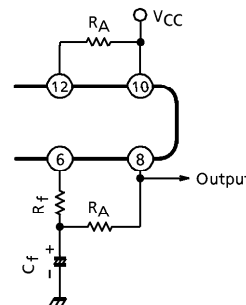

Fig.3
2) When you use this IC at the supply voltage of more than 6V, it is better to insert the resistance R_B for compensating output DC voltage. (Fig.3)